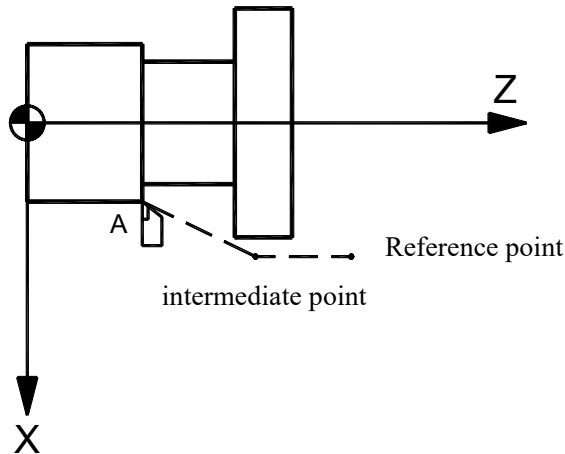

Figure 2-11
- (1) the CNC parameter-0302 enables the zero returning function of each axis;
- (2) It locates from current position to the center point of the command axis (point A - point B) at quick zero return speed set by the CNC parameter-0311. See Figure 2-11.
- (3) Performing the machine zero returning action (point B - point R);
- (4) When the zero returning action is executed, the NC will clear the G50 and the coordinate offset resulting from the machine clearing operation;